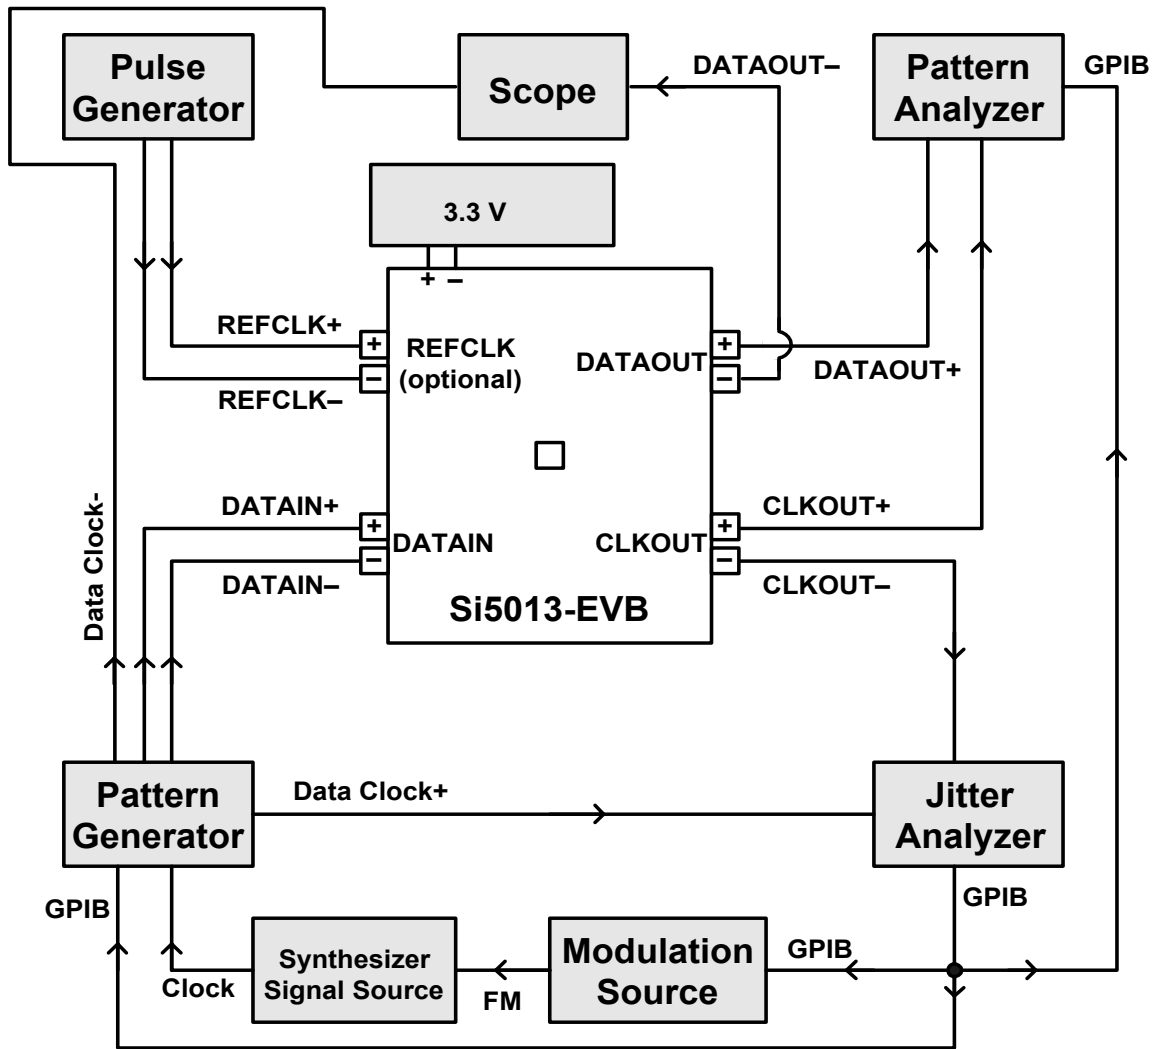

Figure 3. Test Configuration for Jitter Tolerance, Transfer, and Generation
The three critical jitter tests typically performed on a CDR device are jitter transfer, jitter tolerance, and jitter generation. By connecting the Si5013 Evaluation Board as shown in Figure 3, all three measurements can be easily made.
**Jitter Tolerance:** Referring to Figure 3, this test requires a pattern generator, a clock source (synthesizer signal source), a modulation source, a jitter analyzer, a pattern analyzer, and a pulse generator (all unconnected high-speed outputs must be terminated to 50  $\Omega$ ). During this test, the Jitter Analyzer directs the Modulation Source to apply prescribed amounts of jitter to the synthesizer source. This "jitters" the pattern generator timebase which drives the DATAIN ports of the CDR. The Bit-Error-Rate (BER) is monitored on the Pattern Analyzer. The modulation (jitter) frequency and amplitude is recorded when the BER approaches a specified threshold. The Si5013 limiting amplifier can also be examined during this test. Simply lower the amplitude of the incoming data to the minimum value typically expected at the limiting amplifier inputs (typically 10 mVPP for the Si5013 device).
**Jitter Generation:** Referring to Figure 3, this test requires a pattern generator, a clock source (synthesizer signal source), a jitter analyzer, and a pulse generator (all unconnected high-speed outputs must be terminated to 50  $\Omega$ ). During this test, there is no modulation of the Data Clock, so the data that is sent to the CDR is jitter free. The Jitter Analyzer measures the
Jitter Transfer: Referring to Figure 3, this test requires a pattern generator, a clock source (synthesizer signal source), a modulation source, a jitter analyzer, and a pulse generator (all unconnected high-speed outputs